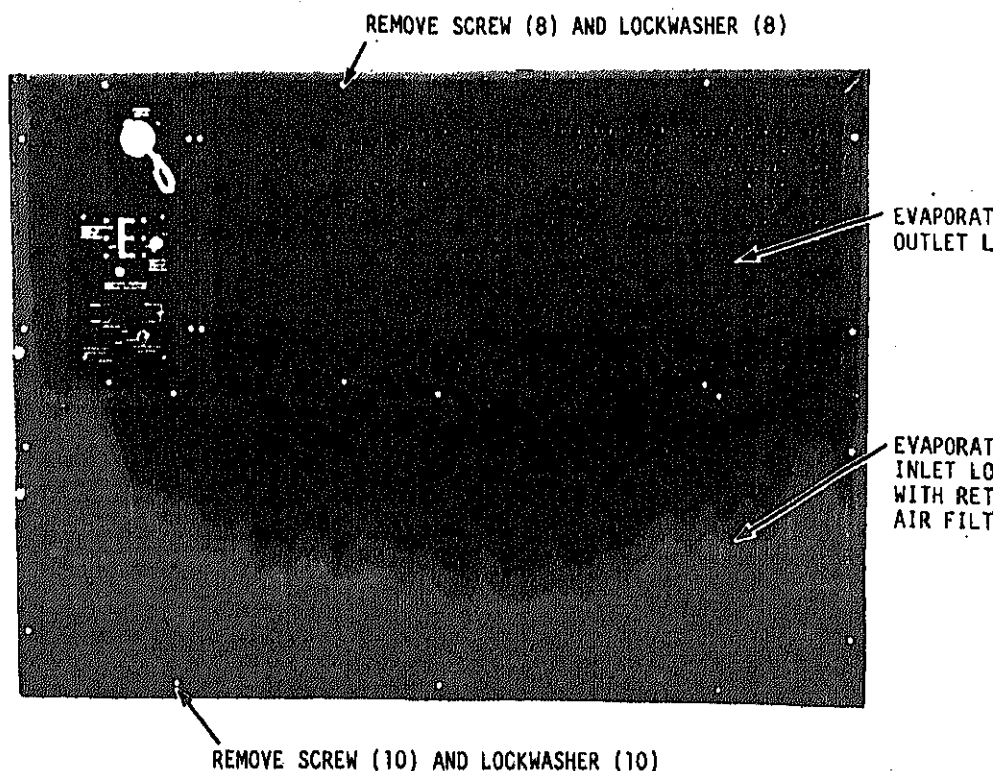

Figure 4-1. Evaporator inlet and outlet louvers, removal and installation.
(1) Refer to figure 4-1 and remove the evaporator air inlet louver.
(2) Refer to figure 4-1 and install evaporator inlet louver.
external coil surfaces, may avoid internal clogging. Clean external surfaces with a softbristled brush or a plastic fin comb. The plastic fin comb can be used to straighten bent coil fins. Clean internally-clogged coils with compressed air. Always direct the compressed air stream straight into coils, to avoid bending fins, and in the opposite direction of normal air flow. Remove covers and louvers (figure 4-1, 4-3 and 4-4) to service coils.